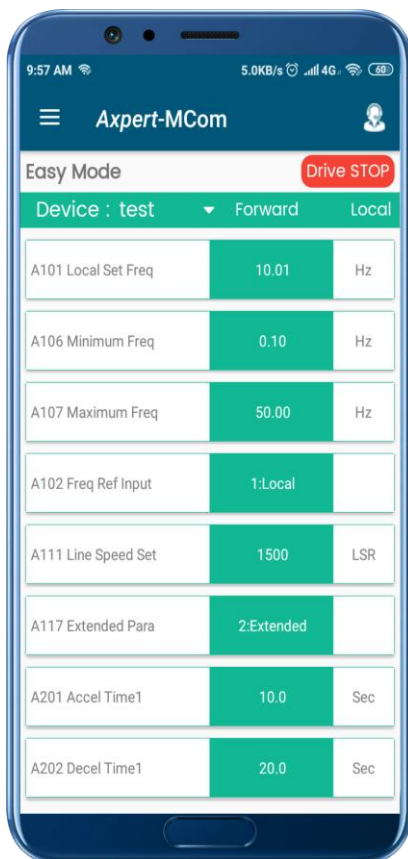

Figure 27: Easy Mode
- For fast configuration of the product, Easy and Quick setup modules have also been implemented. On selecting the Easy mode, the entire commonly configurable parameters list shall appear (Figure 27). User can set these parameters from here itself rather than navigating to individual modes and groups.